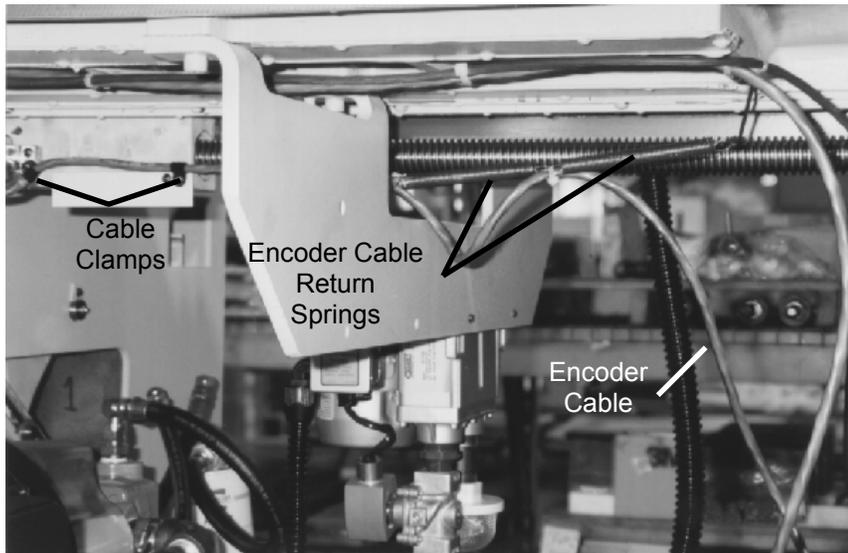
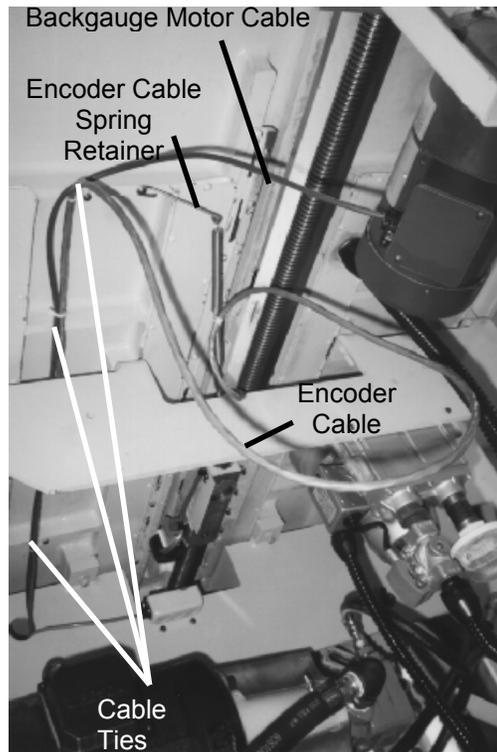

Figure 7
Figure 8
11. Route the encoder cable underneath the table to the encoder. Start by threading the cable from the back of the arch to above the table brace. Secure it to the table with a cable tie, (Figure 7 & Figure 8). Press the plastic cover over the encoder and the wire connection.